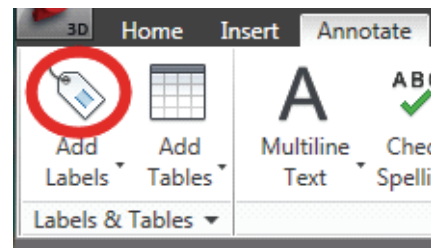

Figure 2–51
2. In the *Annotate* tab>Labels & Tables panel, click  (Add Labels), as shown in Figure 2–51.
3. In the Add Labels dialog box, set the following parameters, as shown in Figure 2–52: